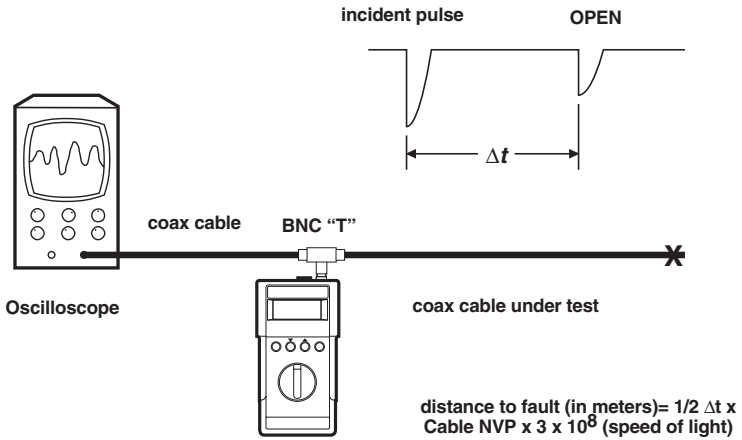

Fig. 6-11. Open.
- The incident and reflected pulses will be displayed on the oscilloscope screen. Sample waveforms are shown in Figures 6-11 and 6-12.